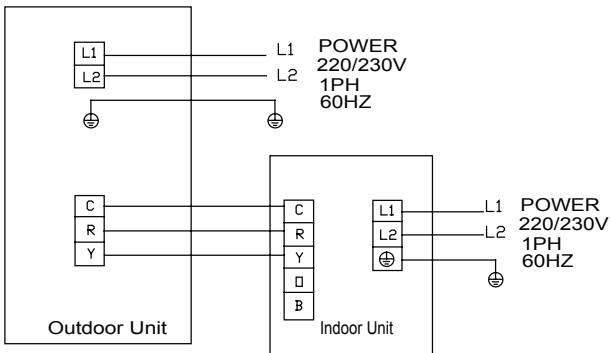

Fig.31
① . The power cord and the wire of the fresh air valve are high-voltage, while the communication cord and connection wire of the wired controller are low-voltage. They should run separately against electromagnetic interference.
② . The high-voltage and low-voltage lines should pass through the rubber rings at different electric box covers.
③ . Do not bundle the connection wire of the wired controller and the communication cord together, or arrange them in parallel, otherwise improper operation would occur.
④ . The high-voltage and low-voltage lines should be fixed separately and securely, with internal big clamps for the former and small clamps for the latter.
⑤ . Tighten the indoor/outdoor connection cord and power cord respectively on the terminal boards with screws. Faulty connection may cause a fire.
⑥ . If the indoor unit connection cord (to the outdoor unit) and power supply are wired incorrectly, the air conditioner may be damaged.
⑦ . Connect the indoor unit connection cord properly based on the corresponding marks as shown in Fig.31.
⑧ . Ground both the indoor and outdoor units by attaching a ground wire.
⑨ . Unit shall be grounded in compliance with the applicable local and national codes.
⑩ . The signal line of the wire controller must be separated from the power line.